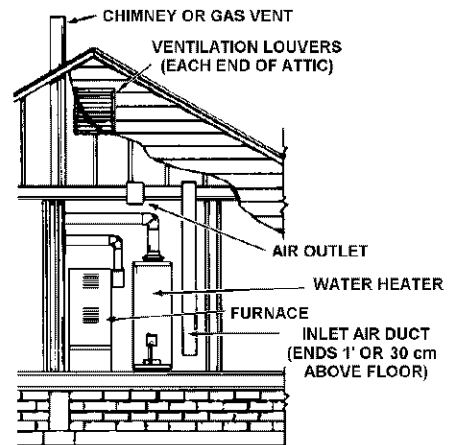

FIGURE 12.
- When directly communicating with the outdoors, each opening shall have a minimum free area of 1 square inch per 4,000 Btu per hour (5.5 cm2/kW) of total input rating of all equipment in the enclosure, see Figure 12.
- When communicating with the outdoors through vertical ducts, each opening shall have a minimum free area of 1 square inch per 4,000 BTU per hour (5.5 cm2/kW) of total input rating of all equipment in the enclosure, see Figure 12.